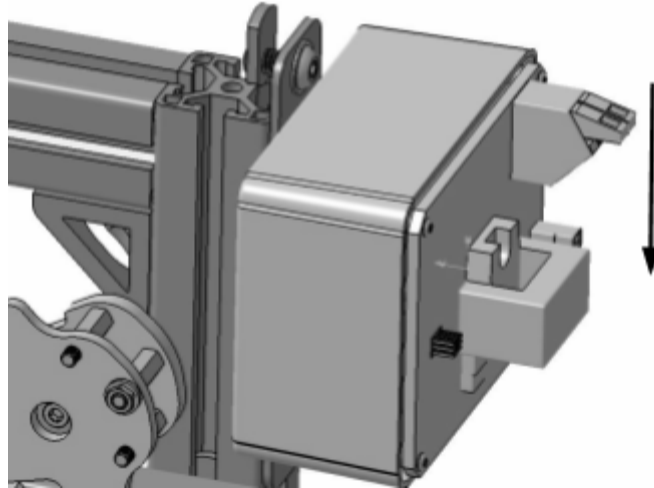

Fig 4.40: Join the power and control console to the support.
- ❑ Then, join the whole assembly into a T-slotted frames 4' long (#HJXQ) by inserting the T-nuts into the slot, as shown in Fig. 4.40.